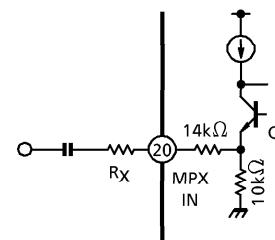

Fig.2 Internal circuit of MPX IN terminal
Internal circuit of MPX IN terminal (pin⑳) is shown in Fig.2. FM stereo main signal level can be attenuated by connecting an external resistor  $R_X$ . Because FM stereo main signal level is attenuated by internal resistor (14k $\Omega$  and 10k $\Omega$ ) and resistor  $R_X$ . And it is applied to an emitter of transistor Q.